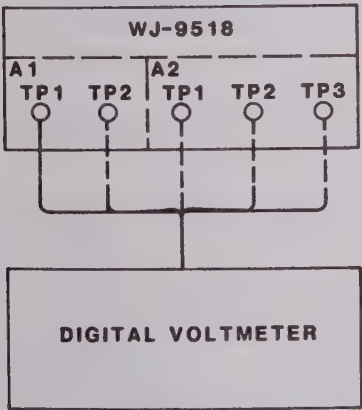

Figure 4-8. Power Supply Alignment, Equipment Connections
- 1. Connect the test equipment as illustrated in **Figure 4-8** via the solid lines.